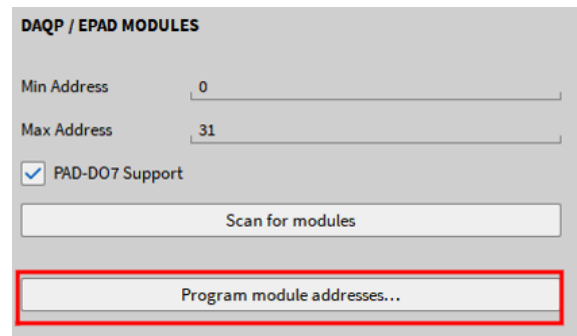

Fig. 4.26: Program module addresses button
- If you have multiple EPAD2 modules daisy chained together, the user can select the *Program module addresses...* button (see Fig. 4.26).